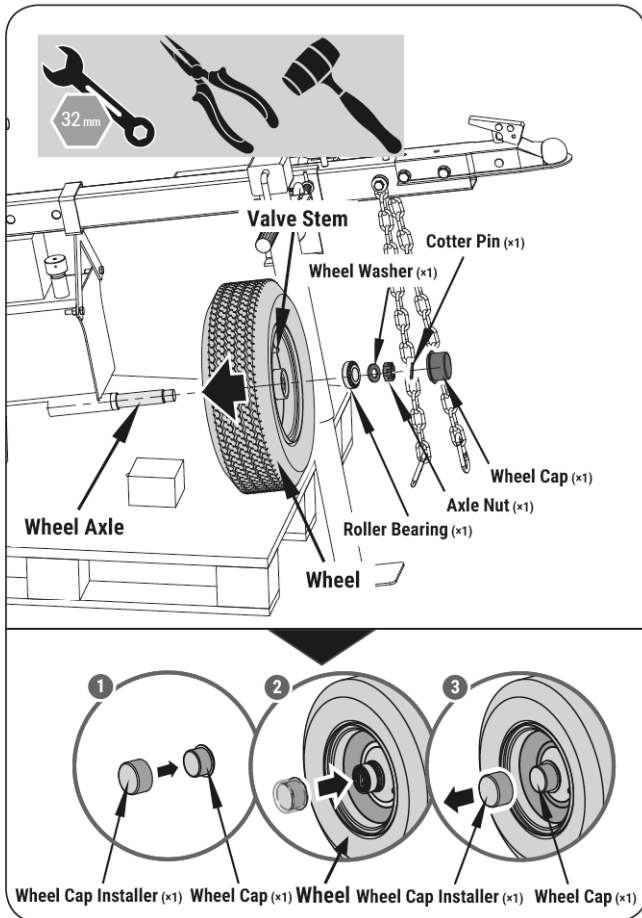

Figure 3i
13. Place the wheel cap into the wheel cap installer, align it against the wheel hub, and use a soft-faced hammer to tap the installer lightly until the wheel cap is fully seated on the wheel hub. Then remove the installer. (See **Figure 3i.**)